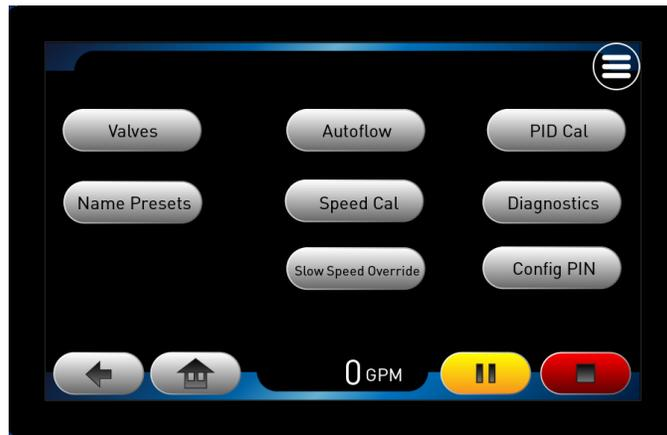
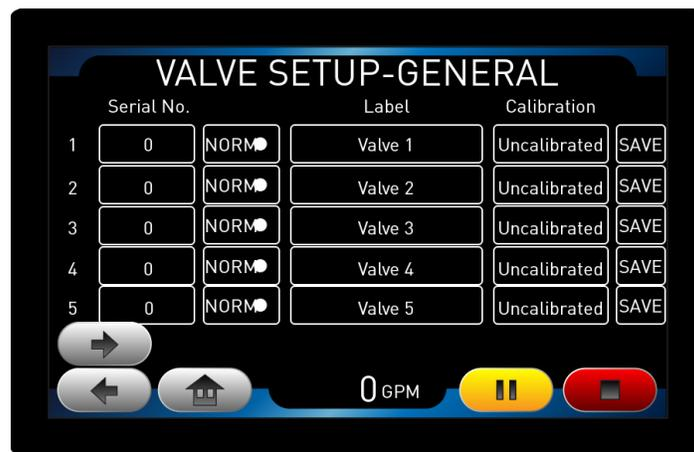
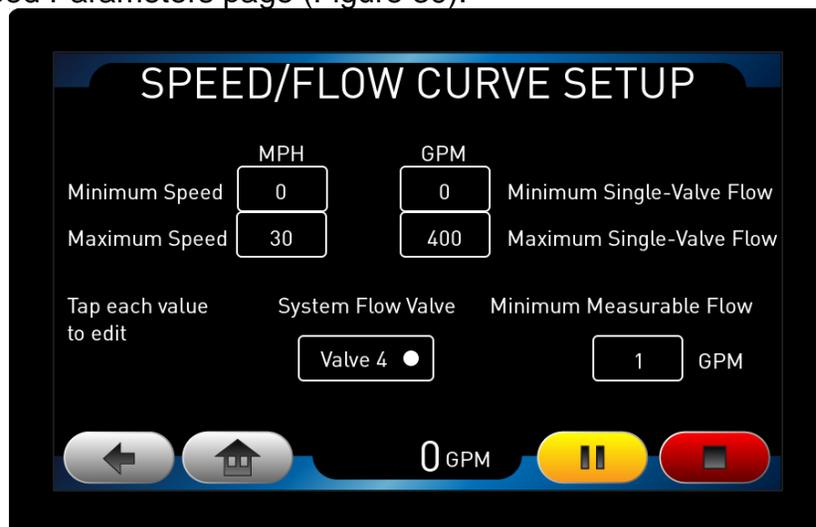
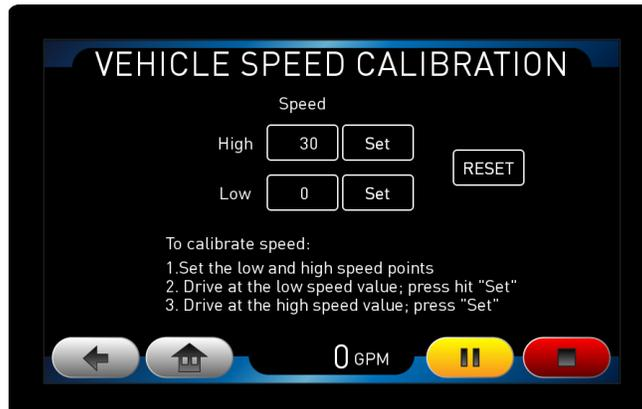

Figure 35: Additional Settings Configuration page
Figure 36: Valve Setup page
Figure 39. Flow-by-Speed Parameters page
Figure 40. Vehicle Speed Calibration page
- Push the “Enter PIN” Button, then enter the Passkey code (0000 is the default). Once complete, push the button. The Additional Settings Configuration page will now be displayed (Figure 35).
- Select the “Valves” button on the Additional Settings Configuration page (Figure 35) to get to the Valve Setup page (Figure 36).
- On the Valve Setup page (Figure 36), fill in the information for each valve in the system. Each rectangle on this page is selectable. Descriptions of each field are described below. The numbers correspond to the numbers on the main control pages. Select the slot where you want a particular valve based on how the system was installed. Use the right arrow  button to access numbers 6-9 if desired.
The automatic flow control uses these parameters to regulate the water spray output (flow rate) based on the vehicle speed. This ensures proper water distribution regardless of vehicle speed. The default flow-by-speed parameters are shown in Figure 39. A description of the values is in the following instructions. If the default values are acceptable, then leave the parameters unchanged and move on to the configuration step. Otherwise, follow the instructions below to change the values.
- Select the “Autoflow” button on the Additional Settings Configuration page (Figure 35) to get to the Flow-by-Speed Parameters page (Figure 39).
Each value with a white rectangle can be changed by touching that value. When a value is pressed, use the displayed keypad to enter all of the digits. If you need to back up to a previous digit, use the **BACK** button. Once all digits are entered, push the **ENTER** button on the displayed keypad to save the new value. Use the  button to return to Flow-by-Speed Parameters page (Figure 39).
- Push the “Enter PIN” Button, then enter the Passkey code (0000 is the default). Once complete, push the  button. The Additional Settings Configuration page will now be displayed (Figure 35).
- Select the “Speed Cal” button on the Additional Settings Configuration page (Figure 35) to get to the Vehicle Speed Calibration page (Figure 40).
1. If the speeds now shown on the touchscreen’s Vehicle Speed Calibration page (Figure 40) are fine to use for calibration, move on to step 2. Otherwise, select the two speeds at which the vehicle will be driven to calibrate the speed sensor by pressing the white-rectangle button that contains the speed value in the Speed column. This will take you to a screen that looks like
4. Push the “Enter PIN” Button, then enter the Passkey code (0000 is the default). Once complete, push the  button. The Additional Settings Configuration page will now be displayed (Figure 35).
5. Select the  button on the upper right corner of the Additional Settings Configuration page (Figure 35) to get to the System configuration page (Figure 42).
10. Once complete, touch the  button in the upper right of the screen to exit to The Additional Settings Configuration page (Figure 35).
7. Once all digits are entered, push the **ENTER** button on the displayed keypad to save. Use the  button to return to the Additional Settings Configuration page (Figure 35).